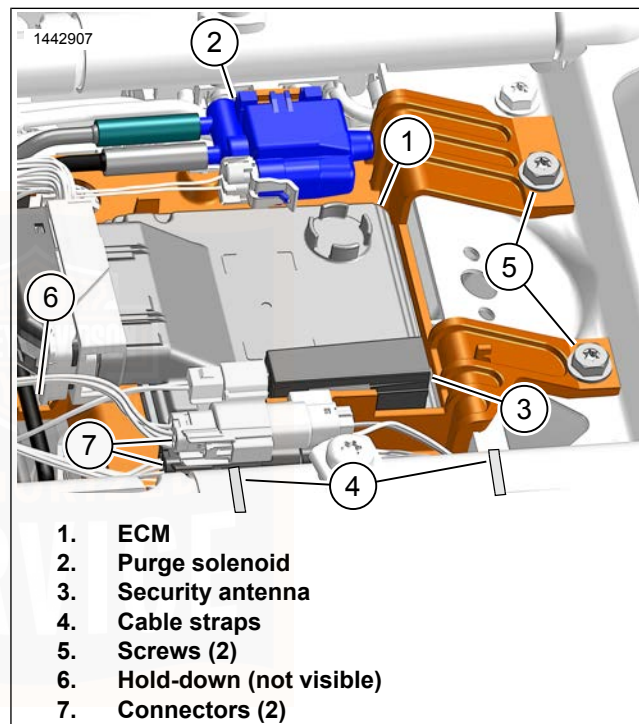

Figure 86. Top Caddy
2. See Figure 86. Release ECM (1) from top caddy. Move out of the way.
3. If present, move purge solenoid (2) up to release from top caddy.
4. **Models with security system:** Release security antenna (3) from top caddy and move out of the way.
5. Release connectors (7) from anchors on top caddy.
6. Remove fasteners (5).
7. Cut cable straps (4). Move harnesses to allow more clearance for the top caddy.
7. See Figure 86. Place top caddy into position and engage latch on hold-down bracket.
8. Fasten top caddy to frame crossmember with fasteners (5). Tighten.